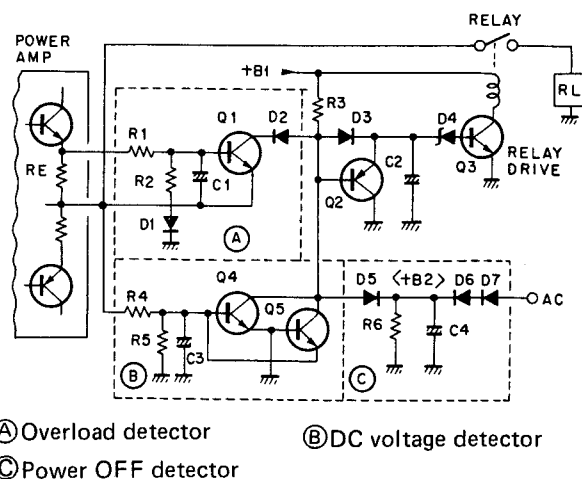

Fig. 4-2 Protection circuit
With reference to Fig. 4-2 when the power supply is turned on, Q_2 turns off due to $+B_1$ and $+B_2$. If there is no input (DC) on Q_4 and Q_5 , they will be off, and the timing capacitor C_2 charges up through R_3 and D_3 and thus Q_3 turns on. When Q_3 conducts, the relay operates, and the output muting on the power amplifier will be removed.